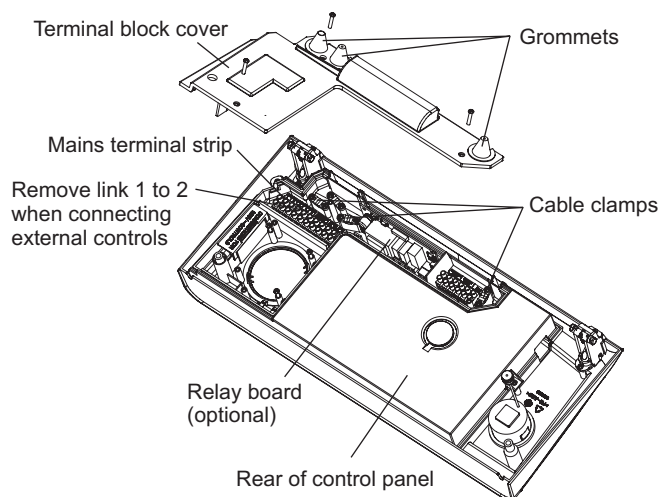

Fig. 16
4.10 CONNECT THE MAINS SUPPLY - Fig. 16
Remove the three screws securing the terminal block cover from the back of the control box (see Fig. 16). Pass the mains supply cable through the cable clamp and connect as follows:- Brown to L, Blue to N and Green/Yellow to $\overline{\text{E}}$. Ensure correct polarity.